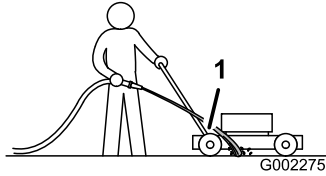

Figure 44
3. Hold the running garden hose at handle level and direct the water to flow on the ground just in front of the right rear tire (Figure 44).